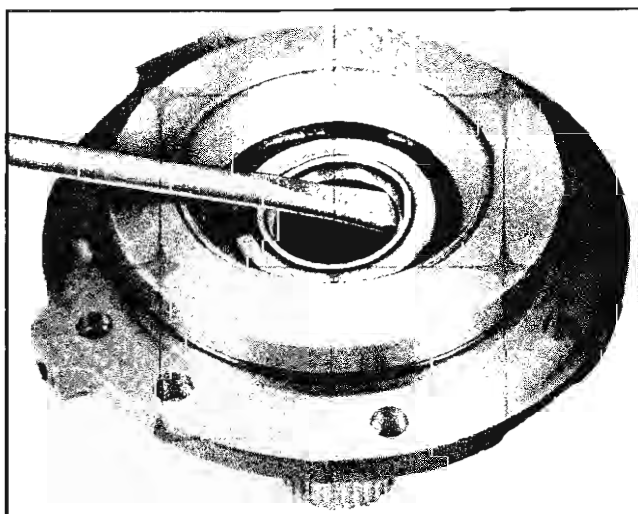

Fig. 4-48 Removing Rear Pinion Oil Seal
3. Remove rear oil seal from retainer using small chisel or other suitable tool (Fig. 4-48).